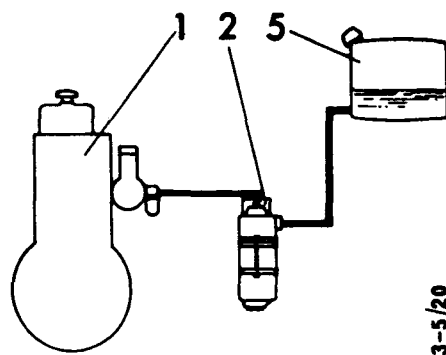
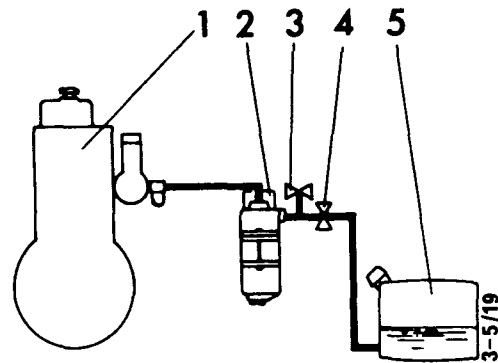

Fig 3
Fig 4
The water separator is to be fitted vertically and in such a way that it is subjected only to the most fractional vibrations. It is fixed in the two threaded holes ($\varnothing 10,3$) and is supported with the two threaded holes (M6) in the middle part. The water separator is connected to the suction line between the fuel tank and the feed pump, as close to the fuel tank as possible. Connecting up should take place according to fig. 3 or fig. 4. Only one engine should be connected to each water separator. The flow of fuel through the separator is to be max. 405 dm³/h (litre/h).
A. In installation according to fig. 3
B. In installation according to fig. 4
2. Close the shut-off valve (4)
4. Open the air valve (3 fig. 4) and drain out the water